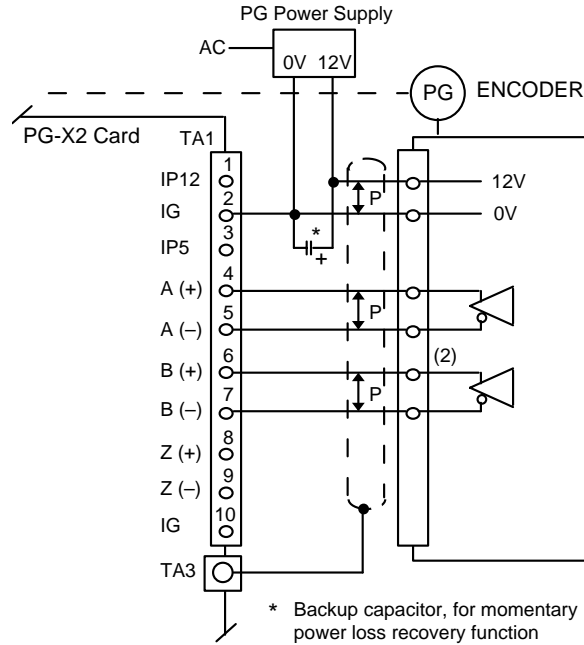

Figure 5. Using Separate PG Power Supply
14. Application: If the encoder's power requirement is greater than 200mA, provide a separate power supply source as shown in Figure 5. If the momentary power loss ride thru function of the drive is to be used, include a backup capacitor in the PG power wiring or take other necessary precautions.